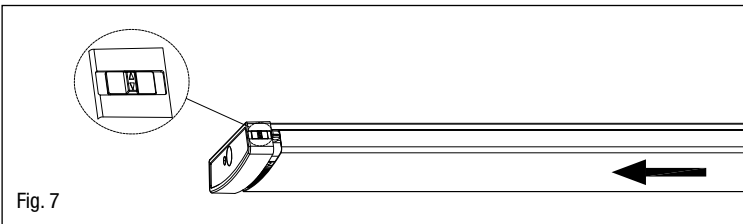

Fig. 7
9. Set CCT and Lumen to desired level using the switches on each sides (Fig.7)